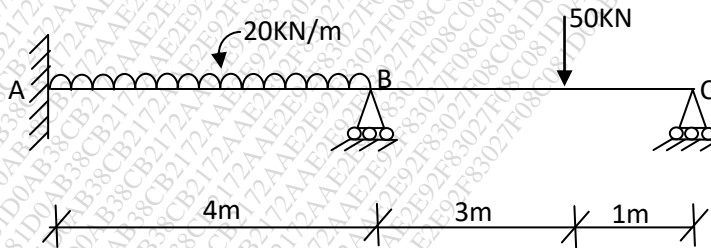

Figure 6
Q.7 Analyse the beam shown in fig.6 using Clapeyron's theorem and find support moments and reactions. Hence draw SFD and BMD. EI = constant 15